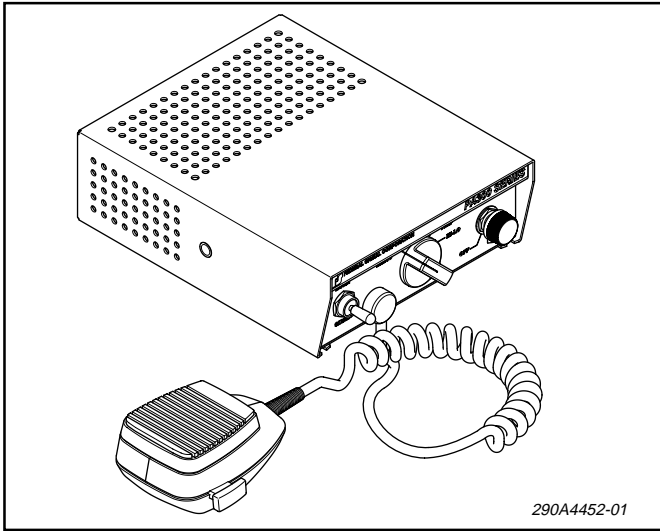

Figure 1-1. Model PA300 Series Electronic Siren.
The Federal Model PA300 Series (figure 1-1) is a precision built, efficient and economical, full-featured electronic siren of advanced design. It provides wail, yelp, hi-lo (Models 690000 and 690001) or priority (Models 690002 and 690004) siren tones, as well as the Tap II feature, public address (PA), radio re-broadcast and an air horn sound.